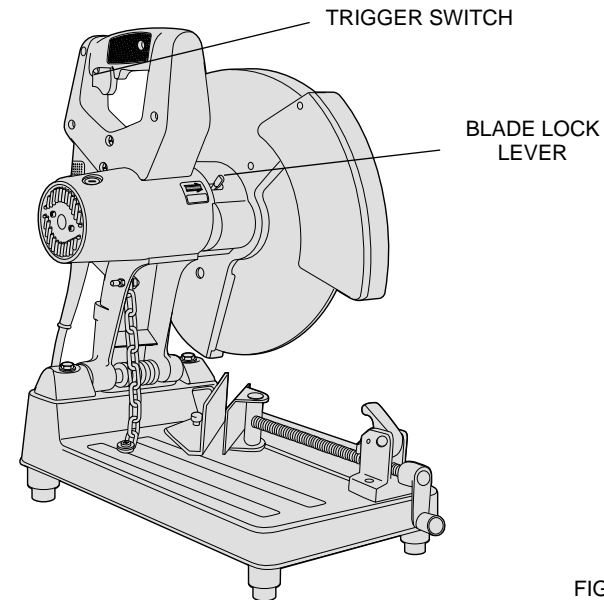

FIG. 1
To start the tool, depress the trigger switch shown in Figure 1. To turn the tool off, release the switch.
2. Push in blade lock lever (Fig. 1) and rotate wheel by hand until blade lock lever engages slot in inside flange to lock wheel. Loosen the hex head bolt in the center of the abrasive wheel